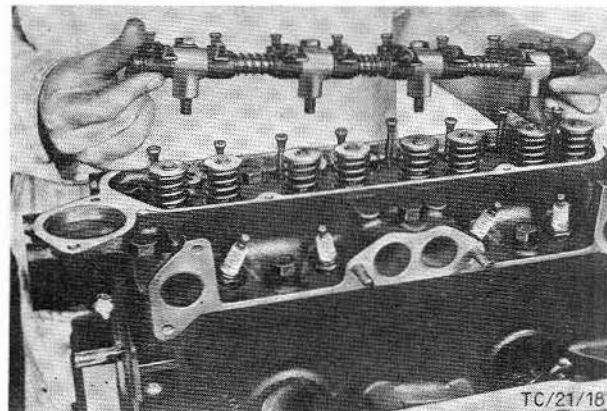

Fig. 22. Remove rocker shaft.
10. Detach rocker shaft (4 bolts), Fig. 22, and remove push rods. **Do not interchange push rods when reinstalling.**